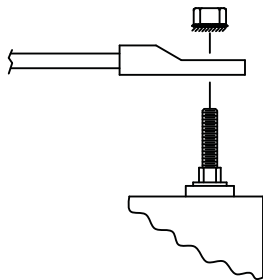

Figure 18. PEM-A / B DC connector assembly
10. Place the other set of the single-holed wiring pair of DC terminals over the DC connector of PEM-B, and the nut with attached star washer over the connector (Figure 18). Use a 7/16 wrench to torque the bolt to 6.8N-m (5 foot pounds).